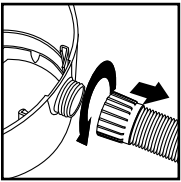

FIGURE 28
40. Unscrew hose locking-nut and remove hose from inlet. **FIGURE 28.**